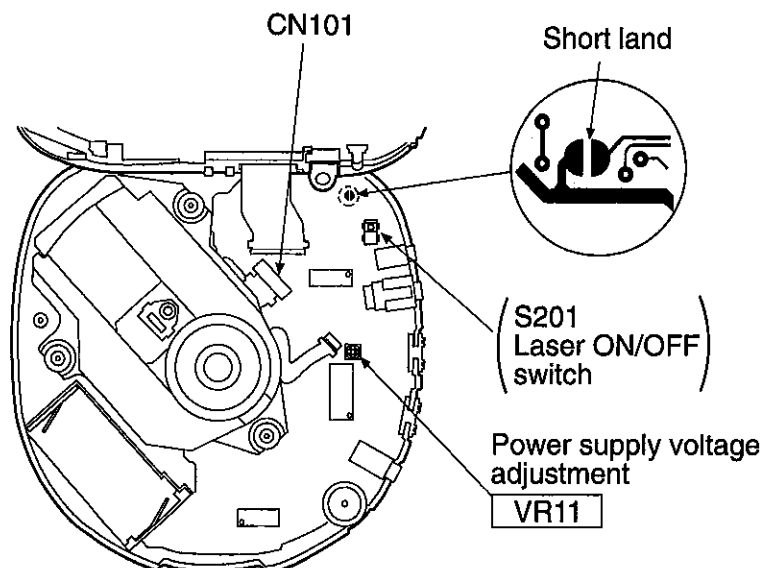

Fig. 3
Short-circuit the lands of the laser ON/OFF switch (SW201) by soldering them. It turns "ON" position. (Refer to below Fig. 3 or printed circuit board and wiring connection diagram for short land location on page 32.)
2. Take care to connect CN101 and CN401. (as shown in Fig. 3).
4. Adjust VR11 on the P.C.B. at $2.45 \pm 0.02V$, as shown in Fig. 3.